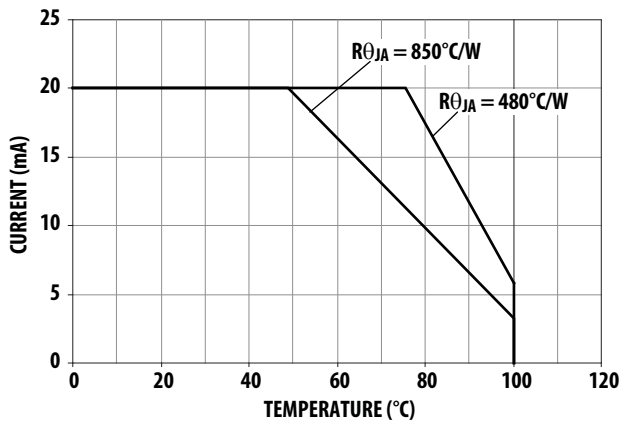

Figure 6. Maximum Forward Current Vs. Ambient Temperature.
1. Derate Linearly as shown in Figure 6.